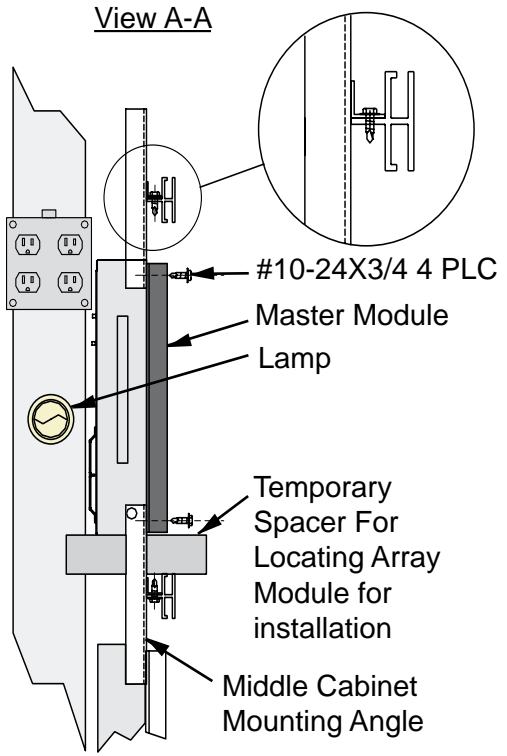
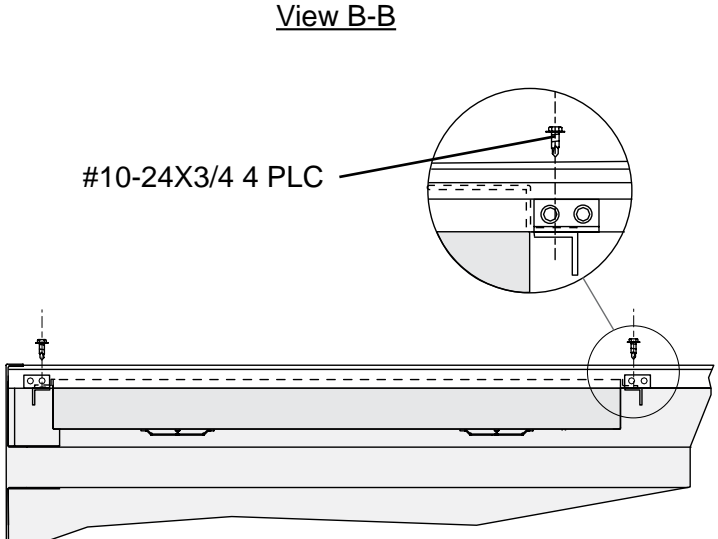

Figure C2: Side View
Figure C3: Top View
Locate the next (Middle Cabinet) angle members (Item 10) directly below. Using a Digit Modules and spacers, center angle member on cabinet frame (Figure C2). Mount angle using two #10-24 HX WSH HD screws provided. Repeat the process for any other Mid Cabinet Digit Modules.
STEP 8: Attach the Master 1 Digit Module at the top inside location of the Cabinet. Using two spacers to locate the box and fasten it using the 4 #10-24 HX WSH HD drill screws (Figure C2 and Figure C3). Repeat process for all Master Module as required.
STEP 9: Attach the Slave 1 Digit Module at the top outside location of the Cabinet. Using two spacers to locate the box fasten it using the 4 #10-24 HX WSH HD drill screws (Figure C2 and Figure C3). Repeat process for all Slave Modules as required.